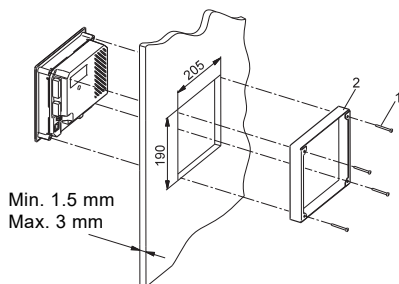
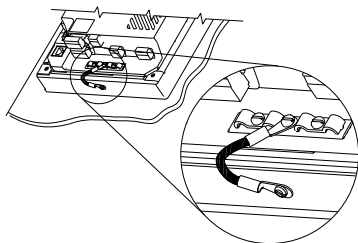

Fig. 7 Mounting in panel front (standard)
Fig. 8 Earth connection
Connect the earth terminal (between the cable clamps) on the CU 3X2 to the mounting frame (pos. 2, fig. 7). See fig. 8.
- Ensure a sufficient earth connection between the CU 3X2 and the frame. See fig. 8.